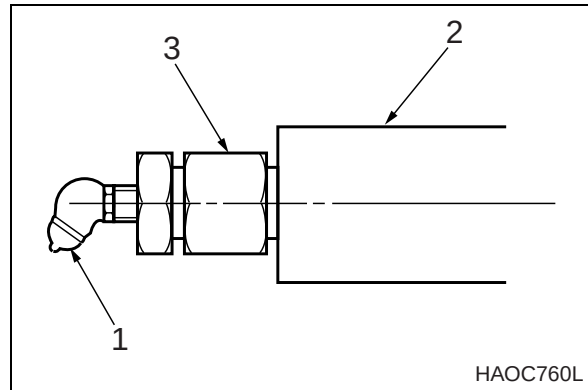

Figure 3
5. Track tension adjustments are made through the grease fitting (1, Figure 3) in the middle of each side-frame. Adding grease increases the length of an adjustment cylinder (2). The longer the adjustment cylinder, the greater the pressure on the tension spring pushing the track idler wheel outward.
6. If there is not enough slack or clearance in the tracks and the adjustment is too tight, the idler wheel and adjusting cylinder can be retracted by bleeding off grease thru hole in adjustment cylinder (2, Figure 3).